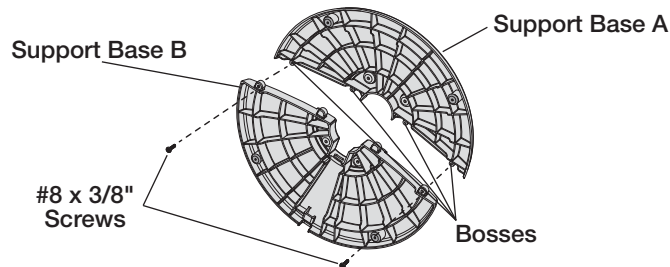
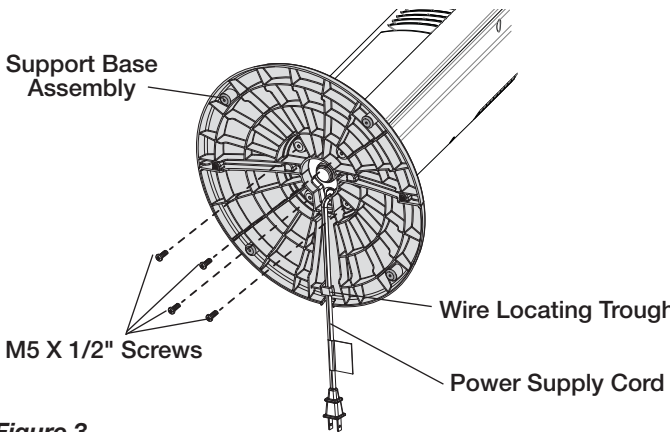

Figure 1
Figure 3
2. Assemble the Support Base Halves by interlocking the bosses on **Support Base A** into the **Boss Holes** on **Support Base B**. Secure (2) **#8 X 3/8" Screws** into the two outer holes in the bottom of the Base. (*Figure 1*)
4. Align the **Support Base Assembly** with the **Motor Base**, noting that the cord channel on the bottom of the **Support Base Assembly** should be towards the back of the Fan. Attach the **Support Base Assembly** to the **Motor Base** with 1/2" long **M5 screws**. Make certain to align the **Key** on the **Support Base Assembly** with the **Locating Notch** on the Motor Base. (*Figure 1*) Gently pull any excess slack of the **Power Supply Cord** and place it in the **Wire Locating Trough**. (*Figure 3*)